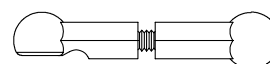

Figure 10A
Step 20. Thread a short plastic rod end (26) onto each end of the 4-40 x 5/8" threaded rod (27).
Step 21. Refer to table in Figure 7C (on the previous page) to determine the appropriate rod length for the servo that is installed. Tighten both sides equally until the rod is the same length as the one shown in Figure 10A or 10B.